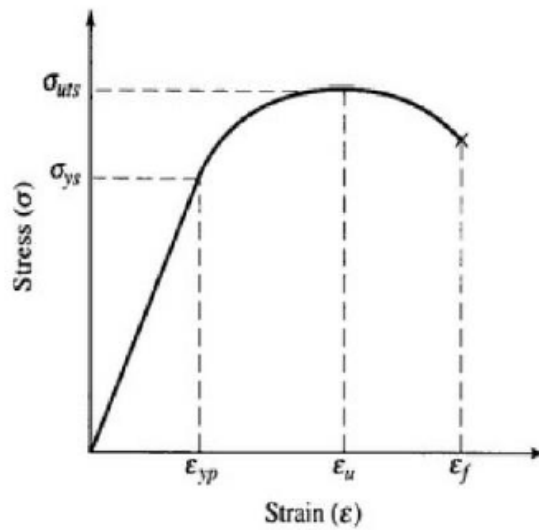

Fig. 7.116: Strain-Stress-Curve
- Young's modulus: The formulas shown above only work in the linear part of the *Strain-Stress-Curve*, which is shown in Fig. 7.116. In this area a constant factor between stress and strain exists.